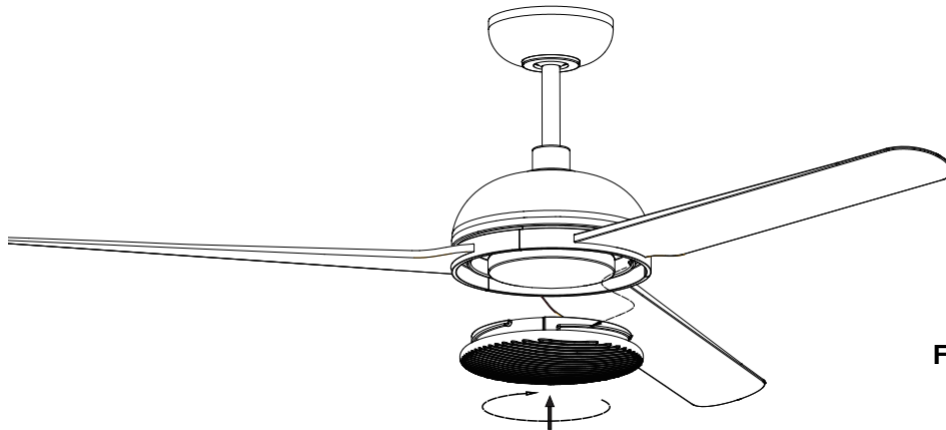

Fig. 9
INSTALLATION OF BOTTOM COVER (Fig. 9)
- Install the bottom cover to the light kit plate then secure it by turning clockwise. (Fig.9)